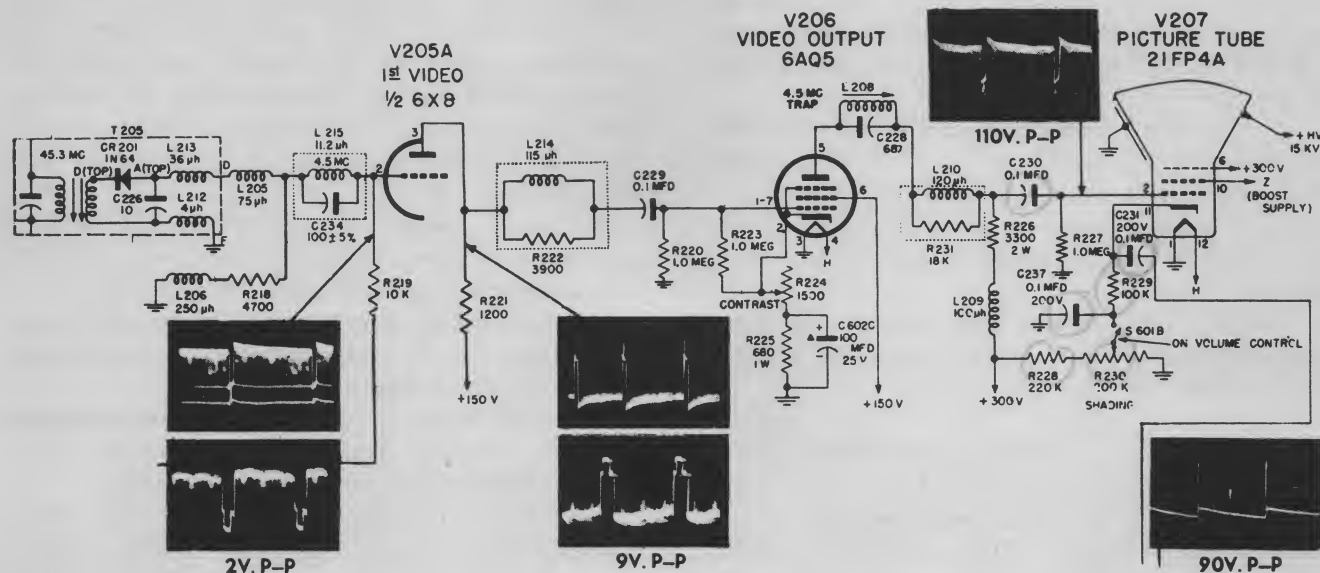

Fig. 6-8. Video detector, amplifier, and CRT: Capehart CX36
b. *Two-Stage Video Amplifier.* Figure 6-8 is a schematic diagram of the video detector, video amplifier, and CRT used in the Capehart CX36. The amplifier used here is typical of two-stage amplifiers used in these late receiver models: CBS-Columbia 3100A, GE 21T1, Stromberg-Carlson 521, and Wells-Gardner GS-40.
(6) *Leaky coupling capacitor to CRT*, if C230 (in Fig. 6-8) is leaky, may cause blooming.
a. *Electrostatically Focused CRT, No Focus Control.* (Refer to Fig. 6-8 for the circuit diagram of an electrostatically focused CRT, 21FP4A.) This tube has a cylindrical face to reduce the effects of glare. The focusing anode is pin No. 6, connected to a fixed 300-v source. No focus control is provided. (Note: In some receivers using this type of
e. *Troubles in CRT Circuits.* Troubles in this stage will affect the raster brightness, focusing, centering, and picture contrast (see Figs. 6-8 and 6-10).